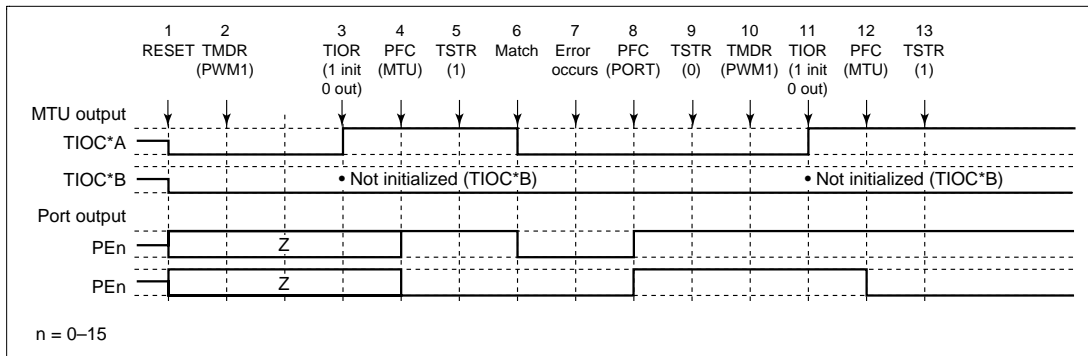

Figure 10.66 Error Occurrence in PWM Mode 1, Recovery in PWM Mode 1
(6) Operation when Error Occurs during PWM Mode 1 Operation, and Operation is Restarted in PWM Mode 1: Figure 10.66 shows an explanatory diagram of the case where an error occurs in PWM mode 1 and operation is restarted in PWM mode 1 after re-setting.